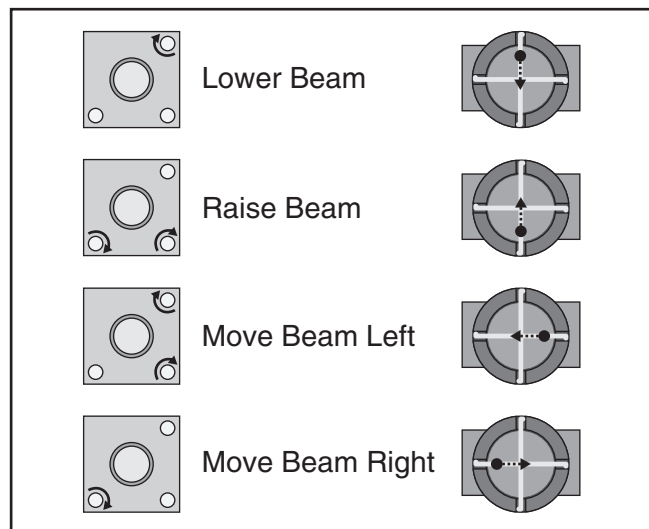

Figure 124. Mirror thumbscrew adjustment.
5. Adjust direction of beam path by tightening thumbscrews depending on desired direction of beam travel (see **Figure 124**).